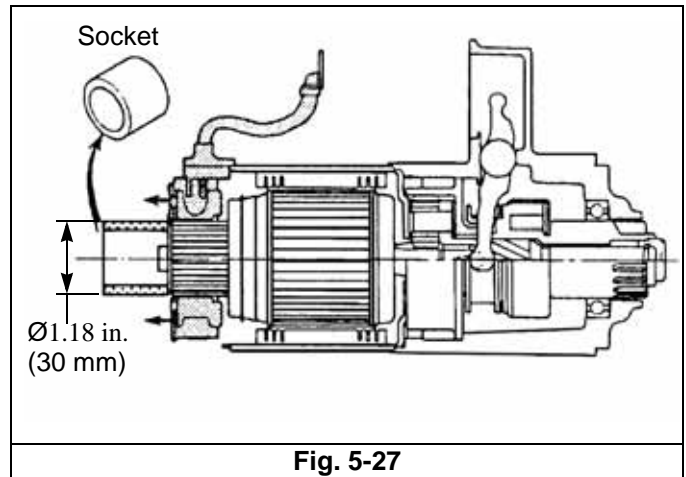

Fig. 5-27
1. Remove switch terminal nut ① and disconnect connecting wire ②. Remove screws ③ securing switch and remove switch and plunger ④.
2. Remove brush holder securing screws ⑤ and through bolts ⑥. Remove rear bracket ⑦ but do not remove brush holder ⑧.
3. Install a socket (outer diameter 1.18 in.(30mm)) on the armature commutator, see page 5-14, Fig. 5-27.